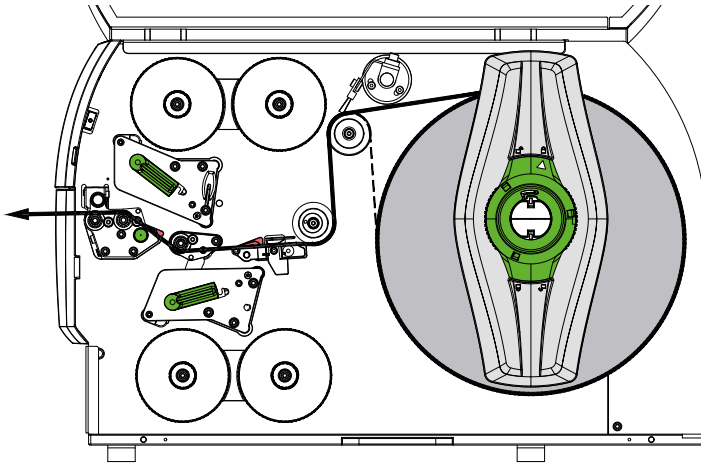
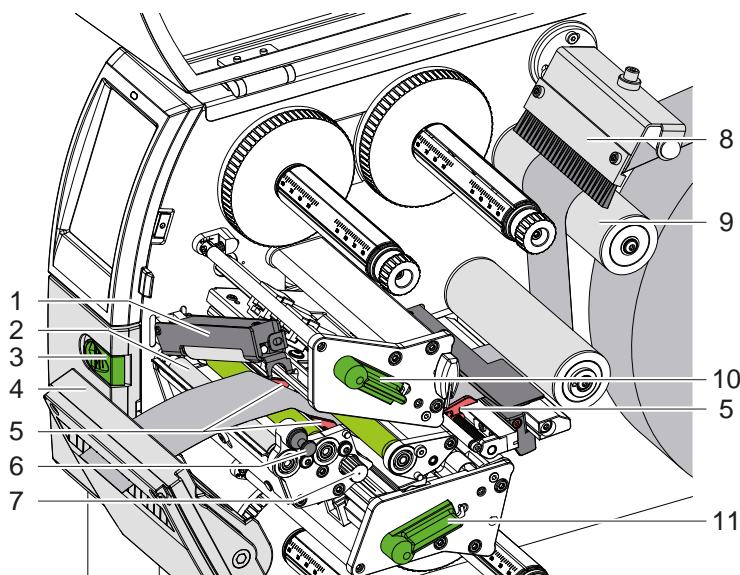

Figure 12 Media feed path
Figure 13 Inserting media into the print mechanics
1. Unroll a longer media strip. Guide the media strip to the print mechanics as shown in Figure 12.
2. Pull the detent pin (6). The pressing roller system (1) will swing upwards.
3. Turn lever (10) counterclockwise and lever (11) clockwise to lift both printheads.
4. Swivel the brush (8) from the roller (9).
5. Move guides (5) apart with the knob (7) until the media can pass between them.
6. Guide media strip through the print mechanics as shown in Figure 13 to the pinch roller (2) and place the strip between the guides (9).
7. \* Devices with cutter: Slide the knob (3) to the left to fold down the cutter unit (4). Guide the media through the cutter blades and fold up and lock the cutter.
8. Move the guides against the edges of the media by turning the knob (7).
10. Pull the detent pin (6). Push the pressing roller system (1) downwards and lock it with the detent pin.
13. Swivel the brush (8) to the roller (9).